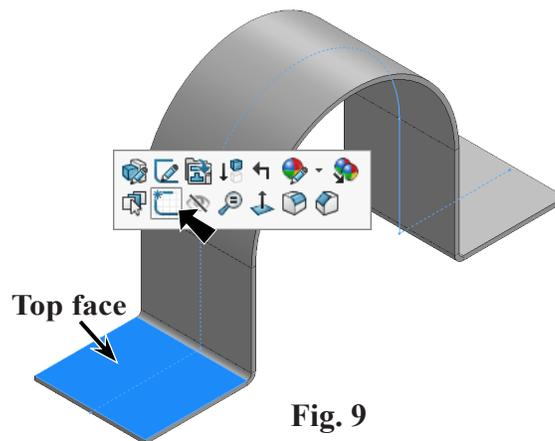

Fig. 9
Step 2. Click the **top face** and click **Sketch**  on the context toolbar, Fig. 9.